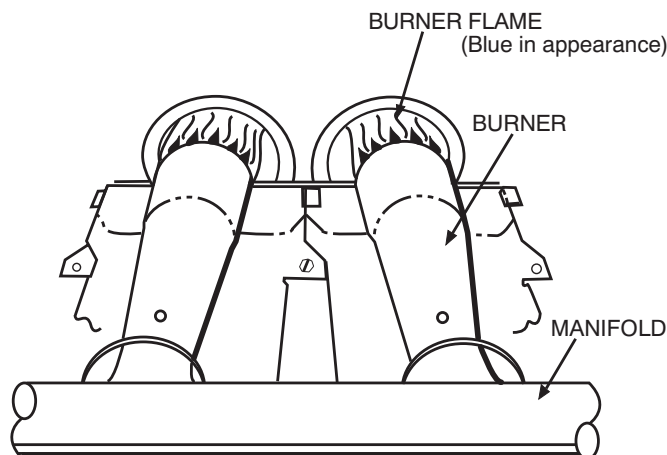

Fig. 18 - Monoport Burner
31. With control access panel removed, observe unit heating operation. Watch burner flames to see if they are blue in appearance, and that the flames are approximately the same for each burner (see Fig. 18).